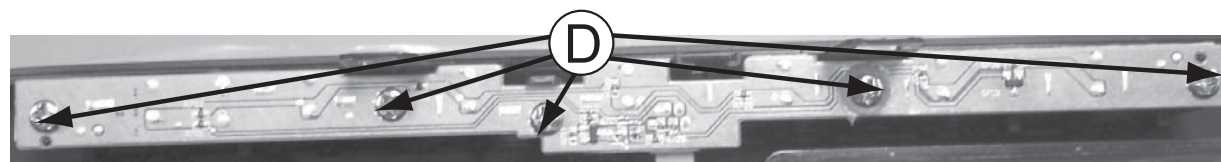

Figure 6
- 1) Loosen 5 screws "D" on the top of key board as shown in figure 6.